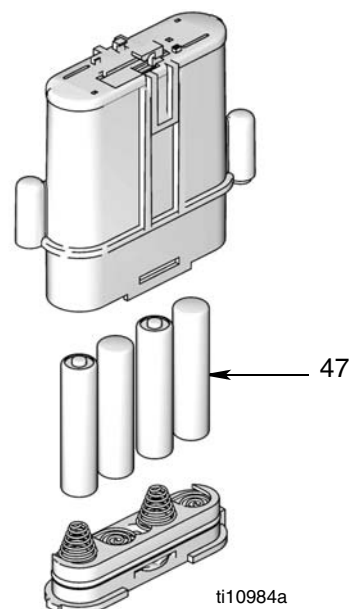

FIG. 28
- Only use the size and type of batteries specified in this manual. Batteries required to meet life expectancy: - Energizer E91 - Be sure to follow the correct polarity when installing batteries in the battery compartment (FIG. 28). Reversed batteries may damage this meter. - Do not mix different types of batteries together or old batteries with fresh ones. Always replace all 4 batteries with 4, fresh, new batteries.
3. Install new batteries. See FIG. 28 for battery orientation.